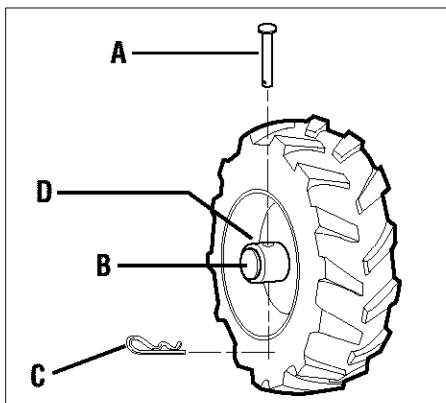

Figure 3-2: WHEEL DRIVE position.
Each wheel is equipped with a Wheel Drive Pin (A, Figures 3-2 and 3-3) that secures the wheel to the wheel shaft (B). The wheels can be positioned in either a WHEEL DRIVE or a FREEWHEEL mode.
Figures 3-2 and 3-3) by removing the hairpin cotter (C).
4. FOR WHEEL DRIVE mode (Figure 3-2): Slide the wheel outward and align the holes in the wheel hub (D, Figure 3-2)) and the wheel shaft (B). Insert the wheel drive pin (A) through the wheel hub and the wheel shaft. Secure the wheel drive pin with the hairpin cotter (C) by pushing the hairpin cotter in as far as it will go. Repeat for the other wheel and then remove the support from beneath the transmission.